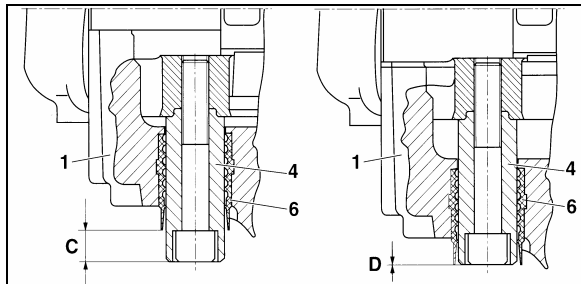

FIGURE 30: BRAKE PAD CHECK 12117
The pad thickness can be seen but would require removal of the tire and rim. An indicator of the pad wear condition is available by inspecting the floating pin location in relation to the rubber bushing as shown in figure 30. When pads are in new thickness condition, the pin will be exposed (C) 19 mm ( $\frac{3}{4}$ " ). When the pads are worn to replacement conditions, the pin will be nearly flush to the bushing (D) or within 1 mm ( $\frac{3}{64}$ " ) of the edge of the rubber bushing.